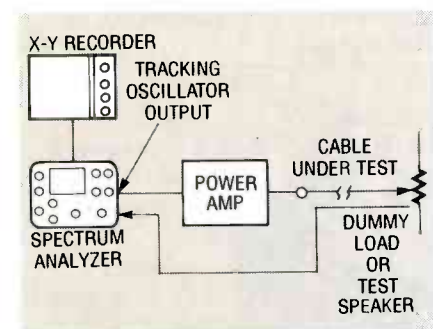
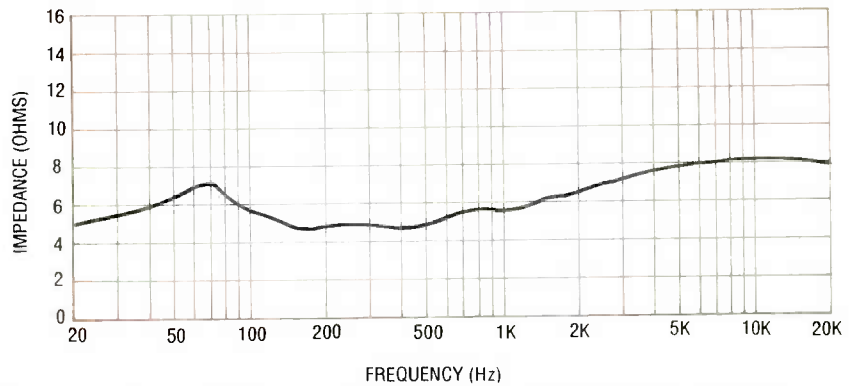
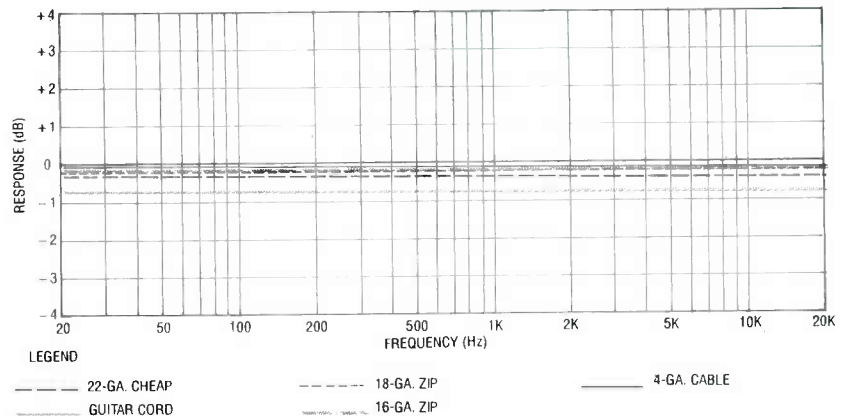

FIG. 5—THIS TEST SETUP was used to measure the effects on an audio signal caused by speaker cables.
FIG. 6—THE MEASURED IMPEDANCE CHARACTERISTICS of the test speaker.
FIG. 7—SEE HOW THE ACTUAL MEASURED CABLE LOSSES compare to the predicted losses of Fig. 4.
always trustworthy, so the actual response of the cables was measured on the setup shown in Fig. 5. The impedance characteristic of the test speaker is shown in Fig. 6. Although the amplifier was flat within  $\pm 0.2$  dB from 20 Hz to 20 kHz, the amplifier's calibration curve was nevertheless subtracted from the measured results in order to provide maximum accuracy. The test results are shown in Fig. 7.
Pin 7 is used as ground, since it presents the highest resistance between itself and the flyback transformer output lead, which 3x39.4 is often quite short to avoid high-voltage breakdown, so be careful how much insulation you remove. The bottom of the voltage-tripler PC board, with D6, D8, and D10, and the attachment points of the ground wire and both high-voltage leads was shown in Fig. 5 in last month's article.
Figure 6-a shows the top of the main PC board mounted in the case and held down with RTV, while Fig. 6-b shows a drawn exploded rendition, giving the same components with greater clarity and definition, but adding the top of the voltage-tripler PC board, connecting leads, and emitter needle.
The wire shown balanced on top of the emitter needle in Fig. 6-b is the rotor for an ion motor discussed later. The foil pattern for the main PC board in the prototype differs from the one shown in this article, primarily due to T1 mentioned in the parts list, which differs from the one used in the prototype.
Figure 7 is a magnified view of the feedback and bifilar primary windings, showing how they're added; use 20-24 gauge enamel wire, for ease of handling and adequate breakdown voltage. Use Mylar tape to insulate both new feedback and bifilar primary windings from the ferrite core. Start with the feedback winding,
The bifilar primary winding is next. Although you can wind both halves adjacent to one another, as shown in Fig. 7, the performance should improve if you superpose them, actually winding one half on top of the other for optimal coupling. Twist two pieces of magnet wire together, with five turns spread along the entire length as a twisted pair, for close proximity between the two wires during the winding process. At one end of the twisted pair, mark one wire with a "4," and the other with a "5."
**FIG. 6—THE TOP OF THE MAIN PC BOARD**, held down with RTV (a), and an exploded view (b), with D2, D4, and D6 not visible. You can see the new feedback and bifilar primary windings, with Mylar tape insulating them from the ferrite core. The enamel leads are "1"- "6," as in Fig. 1; "2" and "5" are paired.
really two separate wires from the bifilar primary winding. In Fig. 6, on flyback transformer T2, you can clearly see the low-voltage taps. Their corresponding numbers are stamped on the metal frame of the ferrite core, increasing clockwise when facing the taps, so that pin 7, the ground, is at the lower right.